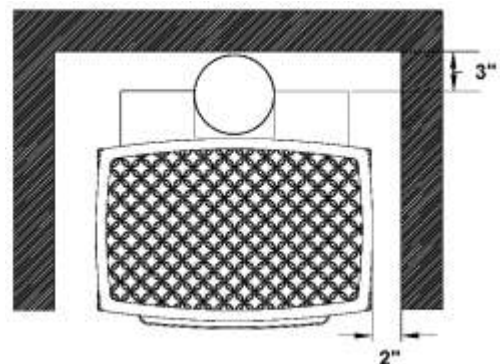

Figure 5 - Minimum Wall Clearances Horizontal Vent
-  Due to high surface temperatures, locate the unit out of traffic areas and away from furniture and draperies. Do not place clothing and other flammable material on or near the heater. When positioning the unit always maintain adequate clearances around air openings into the combustion chamber and allow for adequate ventilation. Minimum clearances to combustibles must be maintained as shown in Figures 5 - 8.